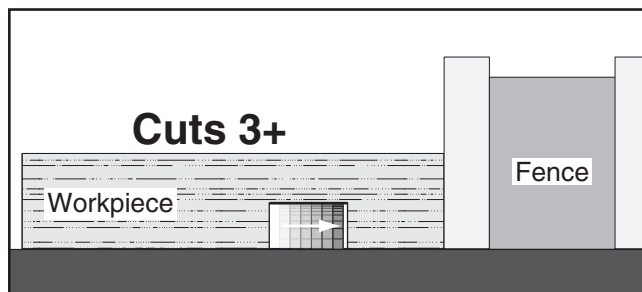

Figure 120. Additional single-blade dado cuts.
8. Make additional cuts (see **Figure 120**) in center of dado to clear out necessary material. Dado is complete when channel is completely cleared out.